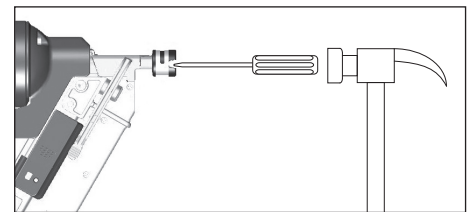

Figure 24
4. If necessary, use small hand tools to help free the jammed nail. Sometimes it is necessary to use a hammer and a long, thin screwdriver to force the driver ram back all the way into the gun (See *Figure 24*).